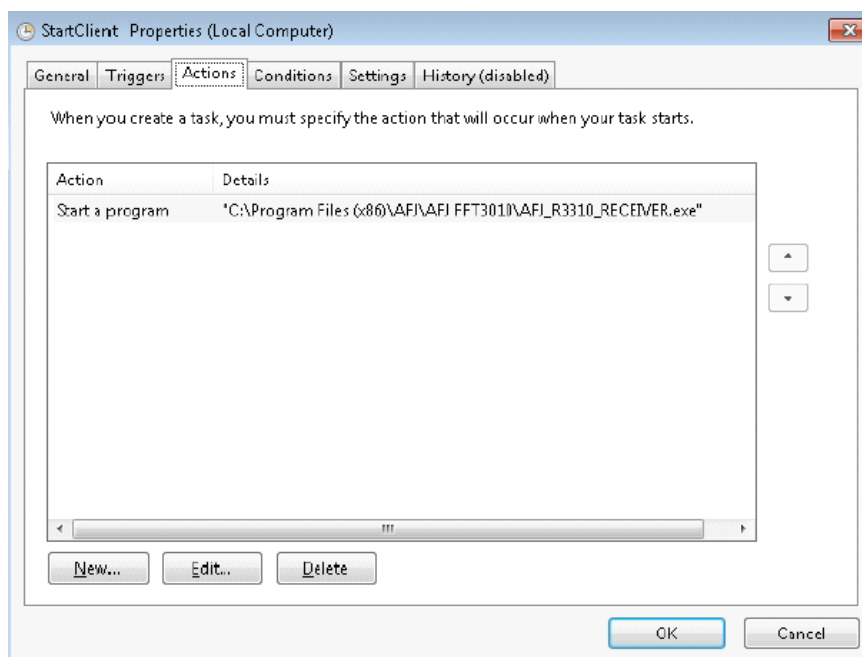

Fig. C.44: Actions tab
STEP 13 – Please select *Actions* tab and verify the status according to Fig. C.44.